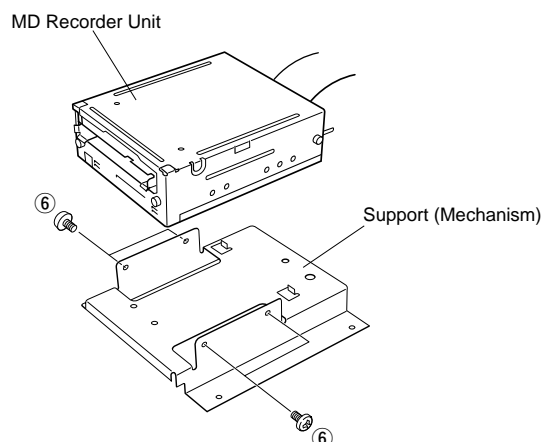

Fig. 2
- c. Remove 4 screws ( ⑥ ) in Fig. 2.